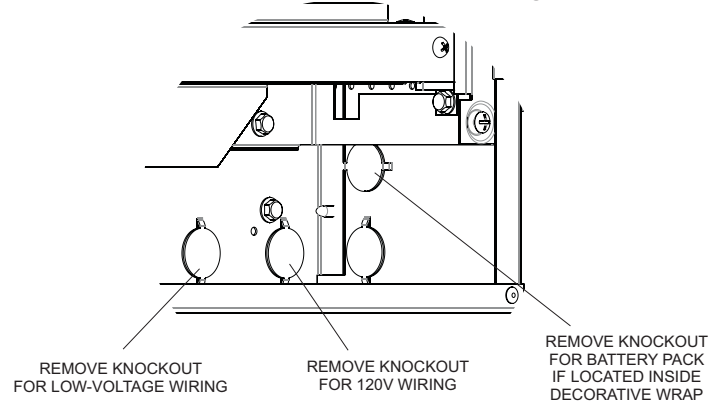

Figure 9
7. Remove the knockouts in the back of the fireplace only. If using battery pack inside of decorative wrapper, open top knockout on the side of the fireplace. **See Figure 9.**